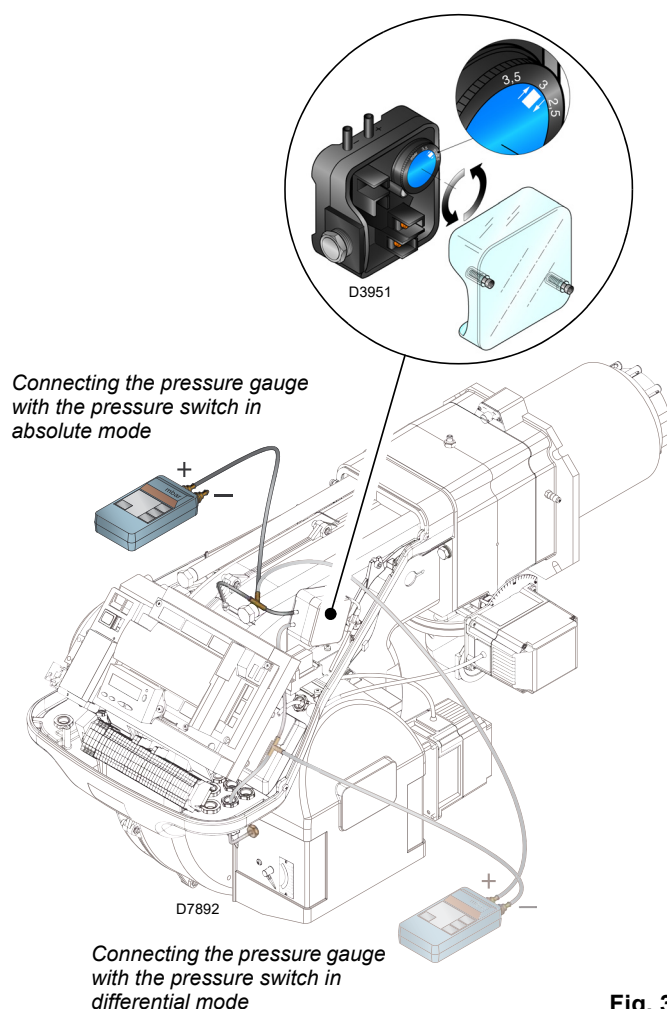

Fig. 31
- Adjust the air pressure switch (Fig. 31 at page 32) to the start of the scale.
Adjust the air pressure switch (Fig. 31) after having performed all other burner adjustments with the air pressure switch set to the start of the scale.
The connection of the pressure gauge is shown in Fig. 31. The standard configuration is that with the air pressure switch connected in absolute mode. Note the presence of a "T" connection, not supplied.
In this case also, the pressure gauge must be connected in differential mode, as shown in Fig. 31.